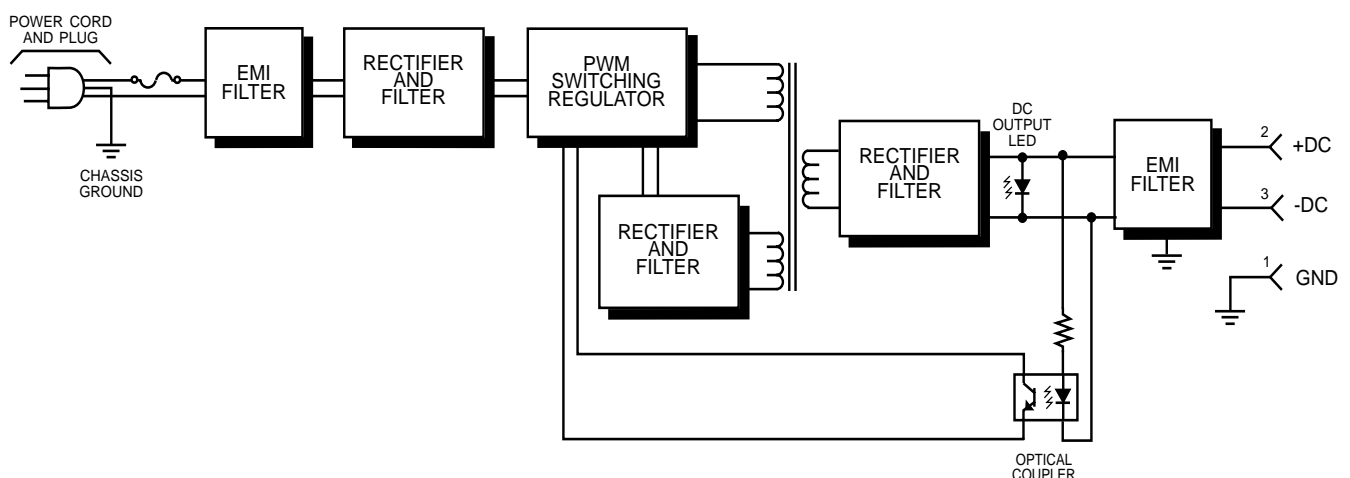

Figure 3 Model 721 Power Supply block diagram.
5.1 GENERAL The circuit description is intended to familiarize you with the Model 721 for engineering and applications use. Repairs to the unit should not be attempted as they will expose you to dangerous voltage levels. Please refer to the block diagram, Figure 3, when reading this technical description.